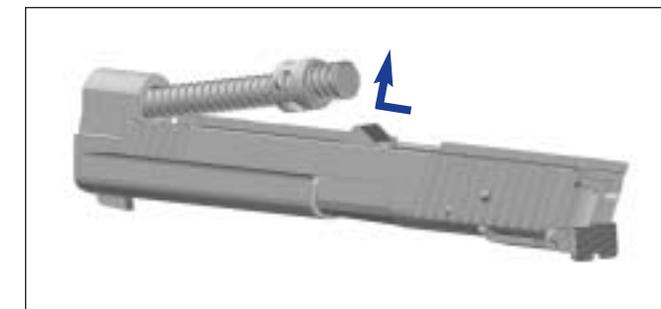

Fig. 10
7. Press in recoil spring guide 61, raise it carefully and remove recoil spring 62 with recoil spring guide 61 from the slide 50 (Fig. 10).